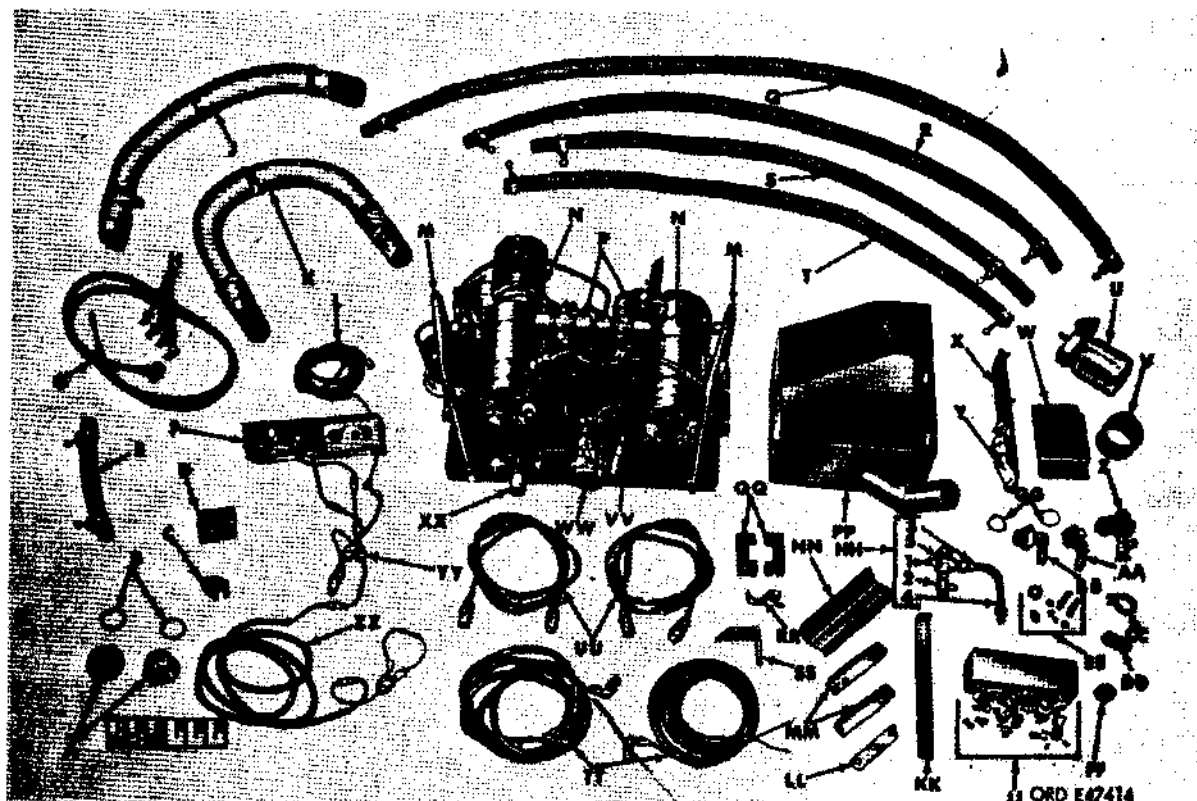

Figure 625. Power plant heater components
- (1) Kit. The Power"plant heater kit is for use only in areas where the normal temperature during the coldest period of the year is -25°F. and lower.
- (2) General. The chief components of the power plant heater kit are described in (3) through (7) below and are illustrated in figures 625, 626, 627, and 629.
- (3) Engine thermostats. The standard bellows-type thermostats, which start to open within 140° to 155°F. and are fully open at 170°F., are replaced by either bellows or element-type engine thermostats that start to open at 180°F.
- (4) Slave receptacle. The slave receptacle serves to receive the plug of the service cable leading from the cold-darting aid kit (slave kit), when auxiliary battery starting power is needed. Boosting of batteries may be required in subzero temperatures, particularly when batteries are "cold-soaked" from long exposure.